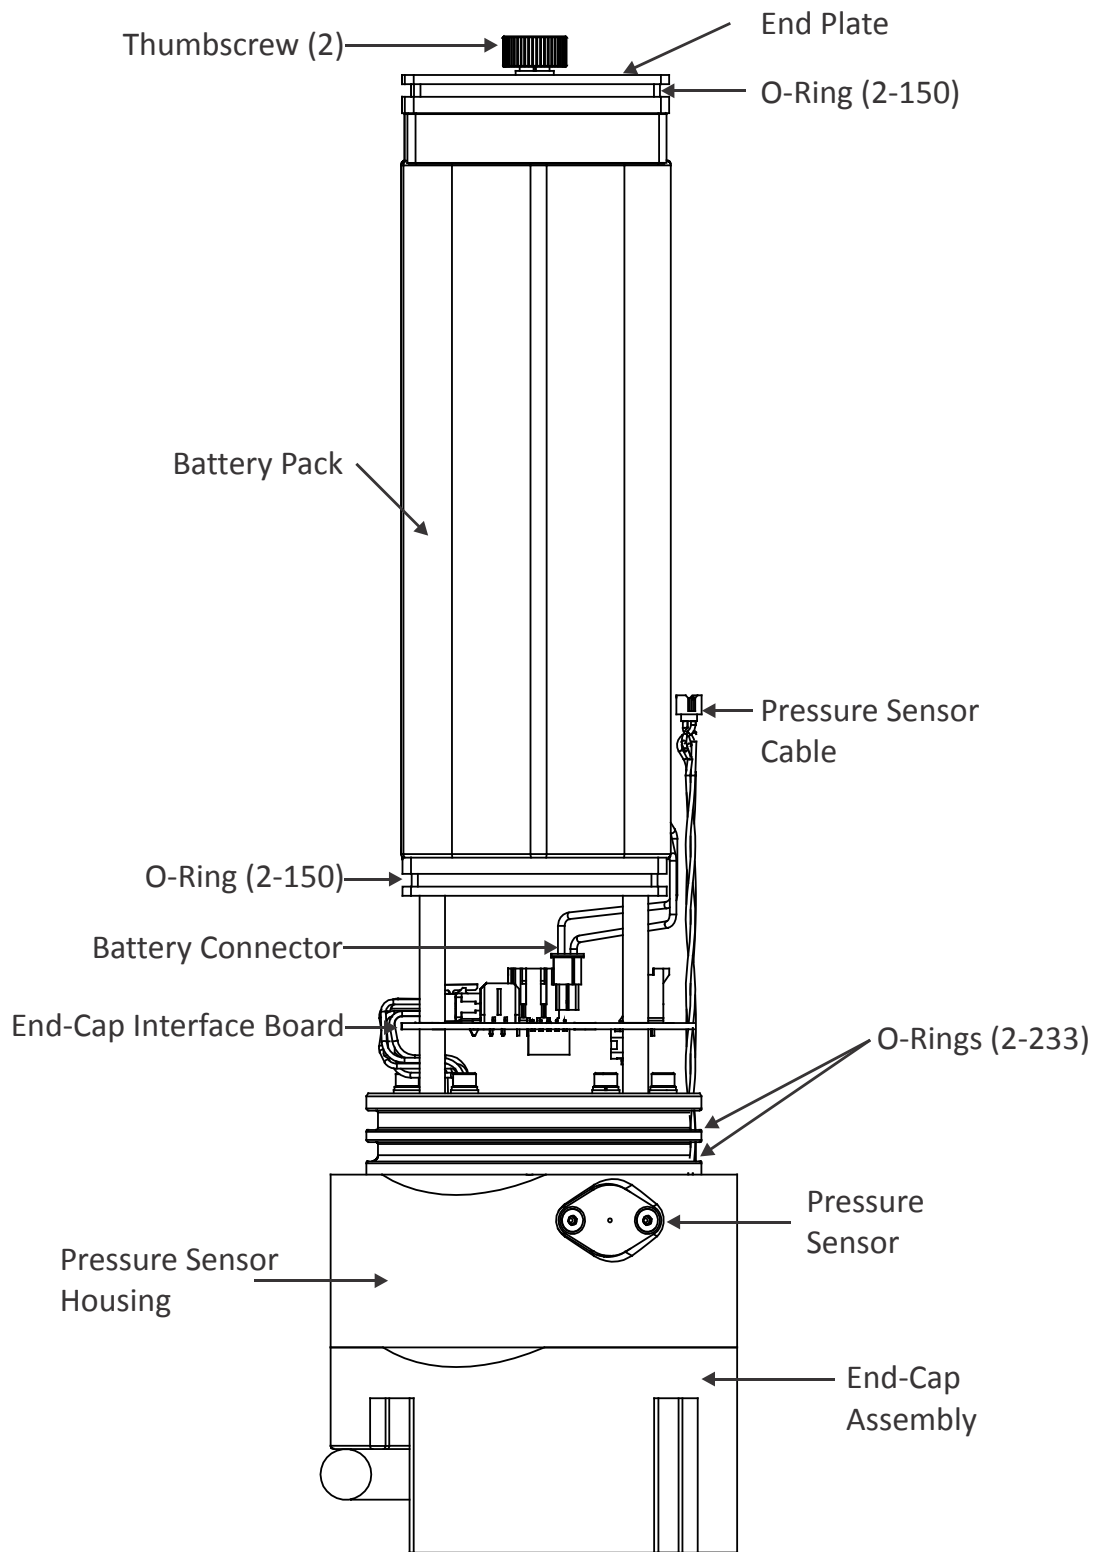

Figure 17. End-cap and Battery Pack Parts Location with Pressure Sensor (750 meter System)
8. Disconnect the three gray cables going to the End-Cap Interface Board. These cables are a 4 pin, a 6 pin, and an 8 pin connector to avoid confusion when reconnecting (see Figure 25). If the system has a pressure sensor, than disconnect the pressure sensor cable (Figure 17).